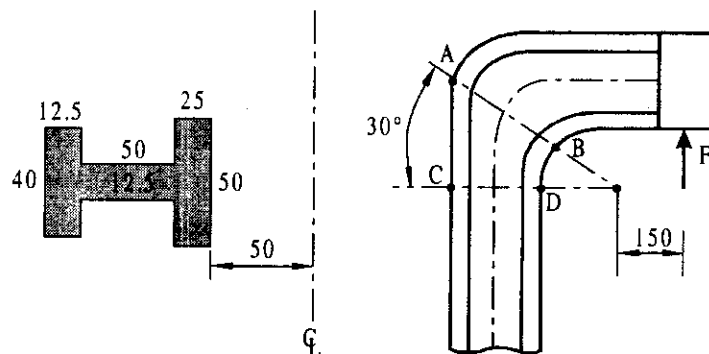

Fig. 1.34
1. Determine the force F that will produce a maximum tensile stress of 60N/mm^2 in section A - B and the corresponding stress at the section C - D (Fig. 1.34)